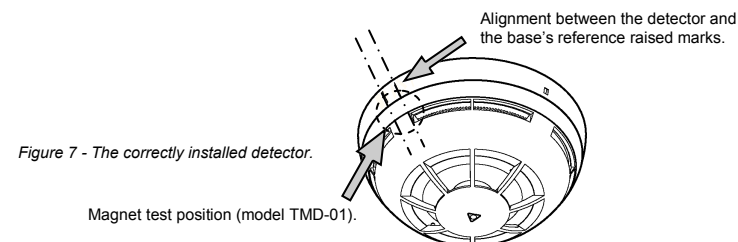

Figure 7 - The correctly installed detector.
Position the magnet (model TMD-01, optional) next to the detector, between the two raised marks on the base (figure 7). The magnet test simulates smoke in the optical chamber and heat on the thermistor, and verifies the function of all electronic circuits of the detector and its communication with the control panel. The detector should trigger an alarm message to the control panel, and, successively, the detector's red LED should be activated by the control panel itself.
5. When the detector is firmly engaged verify the alignment between the detector and the raised reference marks on the base (figure 7).